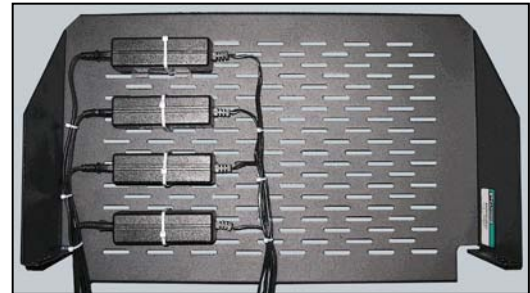

Figure 1: Top down view of a 3 RU shelf showing orientation of power supplies.
- 1.) Place power supplies on their sides and line them up into two rows of no more than four power supplies each, leaving at least 1" of open space between them for proper ventilation (figure 1).